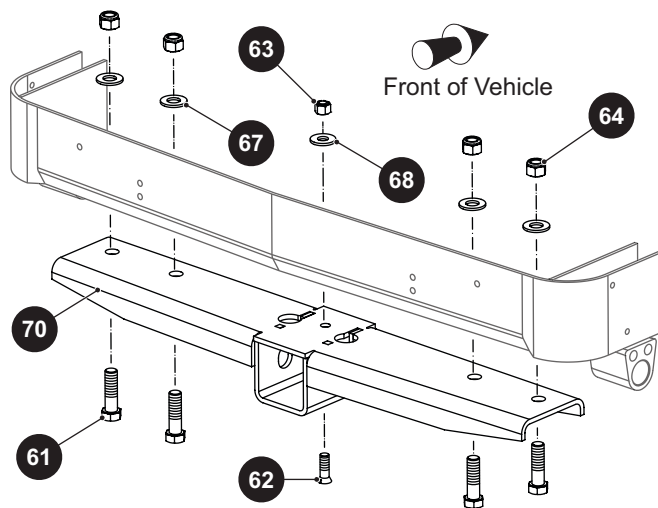

Figure 12 Hitch Receiver
1. Remove the lock nut (63), washer (68), and screw (62) through the center of the hitch receiver (70).
2. Remove the lock nuts (64), washers (67), and bolts (61) securing the hitch receiver (70) to the frame (Ref. Figure 12).